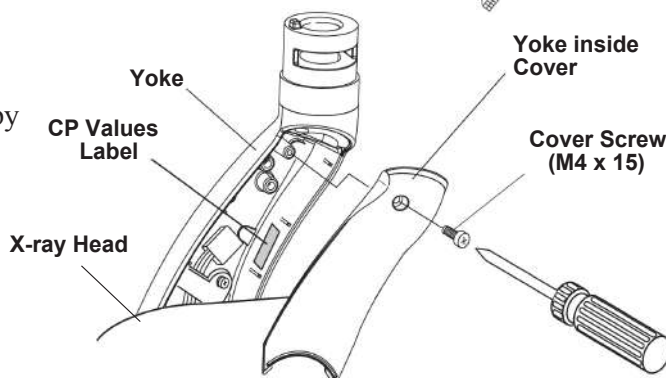

Fig.3-16 Removing Yoke Inside Cover
- Open the yoke inside cover of x-ray head by removing (M4 x15mm) cover screw. (Fig.3-16)
7. Reattach the yoke inside cover with the screw (M4 x 15mm). Before closing the cover, note the CP values on the CP values label inside of the yoke. (**Fig.3-16**)